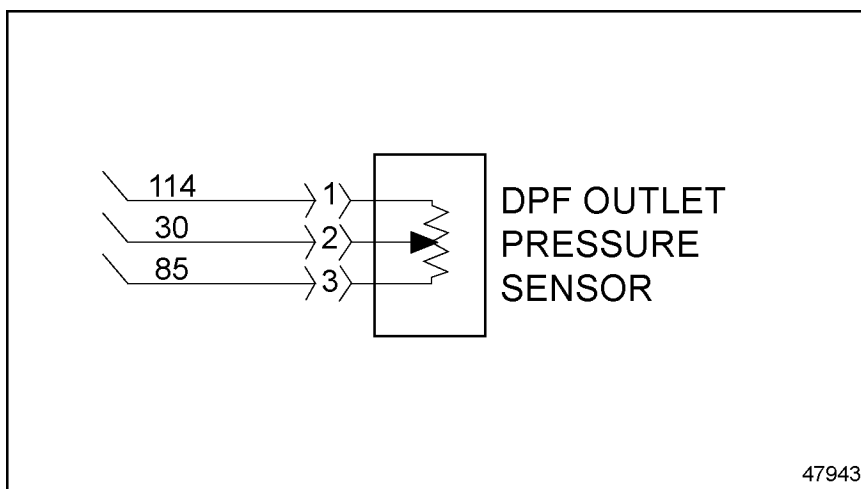

Figure 4 DPF Outlet Pressure Sensor
5. Disconnect DPF Outlet Pressure Sensor connector. See Figure 4.